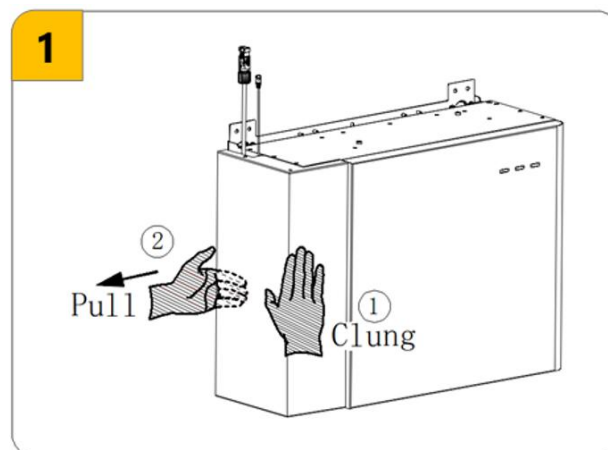

Figure 6-32 Remove the cable cover of the battery
5. Grasp the cable cover, then move it to the left, Refer to 1 in Figure 6-32.